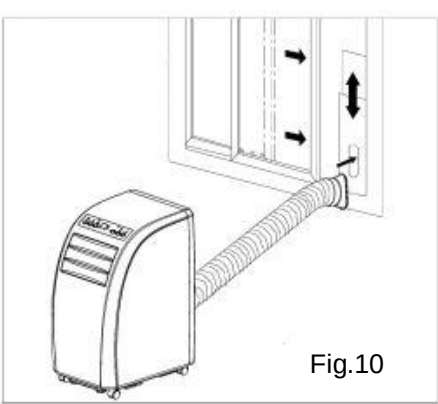

Fig.10
4. Install the fixed window sealplate respecting the orientation of the window (as shown in Fig 10. & 11)